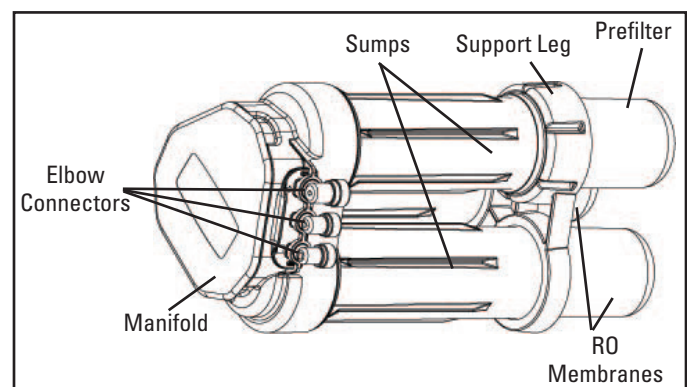

Figure 8 RO Assembly
The RO Assembly includes the following components: sumps (3), support leg, prefilter, RO membrane elements (2), and postfilter. The tubing is attached to the manifold by the elbow connectors. When choosing a location for the system, allow enough tubing for it to be moved for periodic servicing of the filters and membrane elements (Figure 8 RO Assembly).